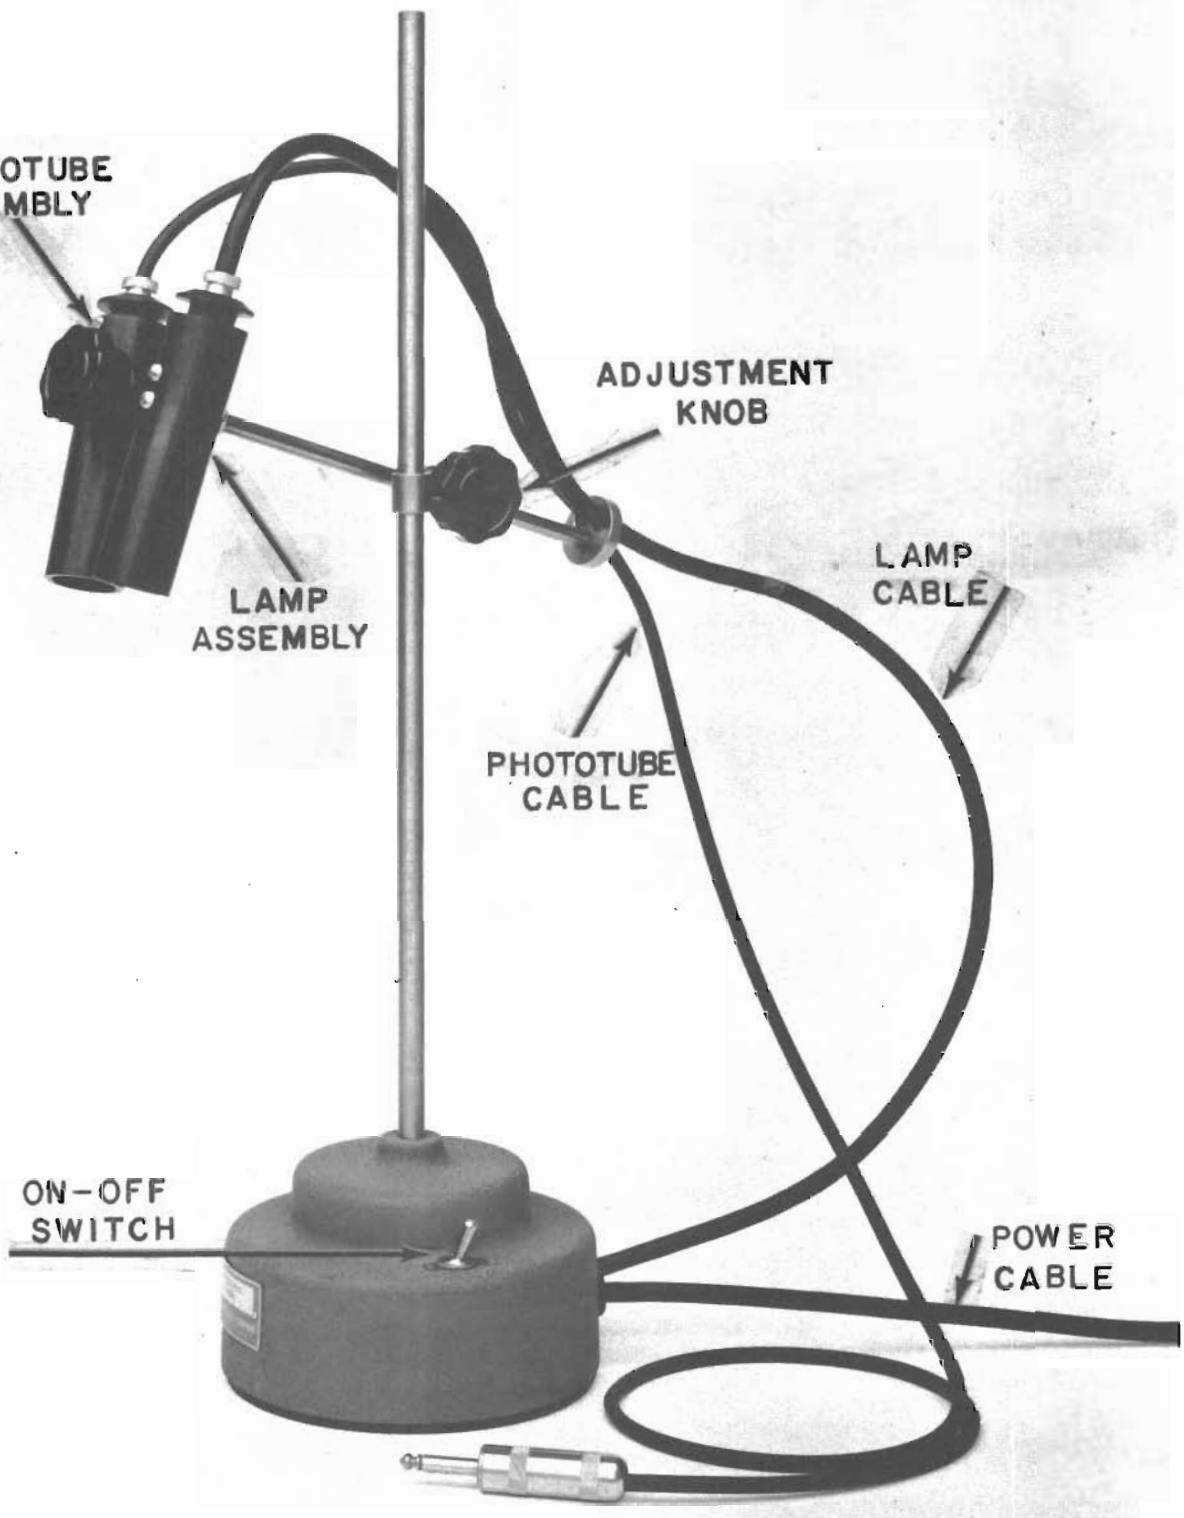

Fig. 3. Model 506A Optical Tachometer Pickup
Description (Fig. 3) - The tachometer head assembly includes (1) a 21 candle-power, 6 volt incandescent lamp and condensing lens mounted in a shielded tube, and (2) a type 1P41 phototube and condensing lens mounted in the same size shielded tube. The mounting stand for the lamp-phototube head is equipped with an adjusting mechanism which permits the head to be adjusted both as to angle and as to height. A step-down transformer for the lamp circuit is housed in the base of the mounting stand. A toggle switch, designated ON-OFF, on the base, controls the power for the light circuit.